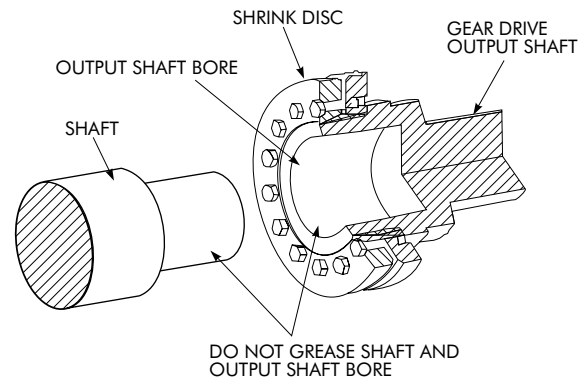

Figure 2.2b Placement of Shrink Disc onto Output Shaft
- c. Slide Shrink Disc over the output shaft. The outer surface of the output shaft can be greased. **NOTE:** The output shaft bore and the shaft that the speed reducer will be mounted to SHOULD NOT be greased. Reference Figure 2.2b.